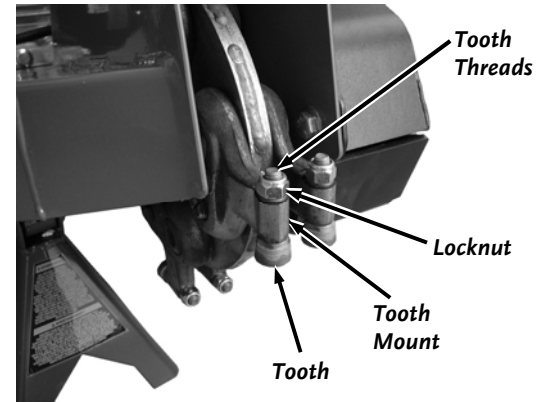

Figure 39
2. Loosen the Locknut on the Tooth until the top of the Locknut is flush with the top of the Tooth threads (**Figure 39**).